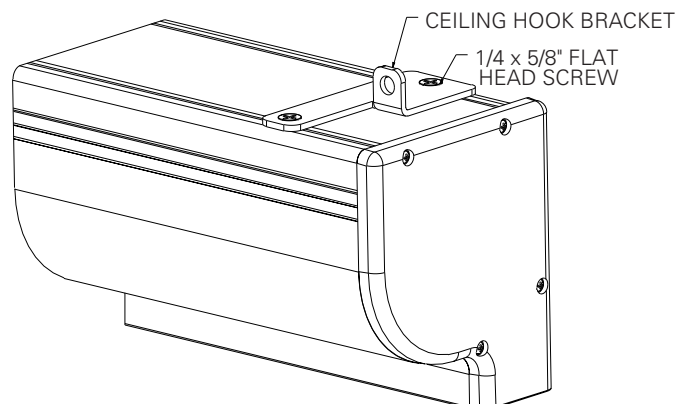

FIGURE 3
2. The top of the screen case has two channels with threaded nuts that slide the length of the case. Attach ceiling hook brackets as provided to the screen case as shown in figure 3.